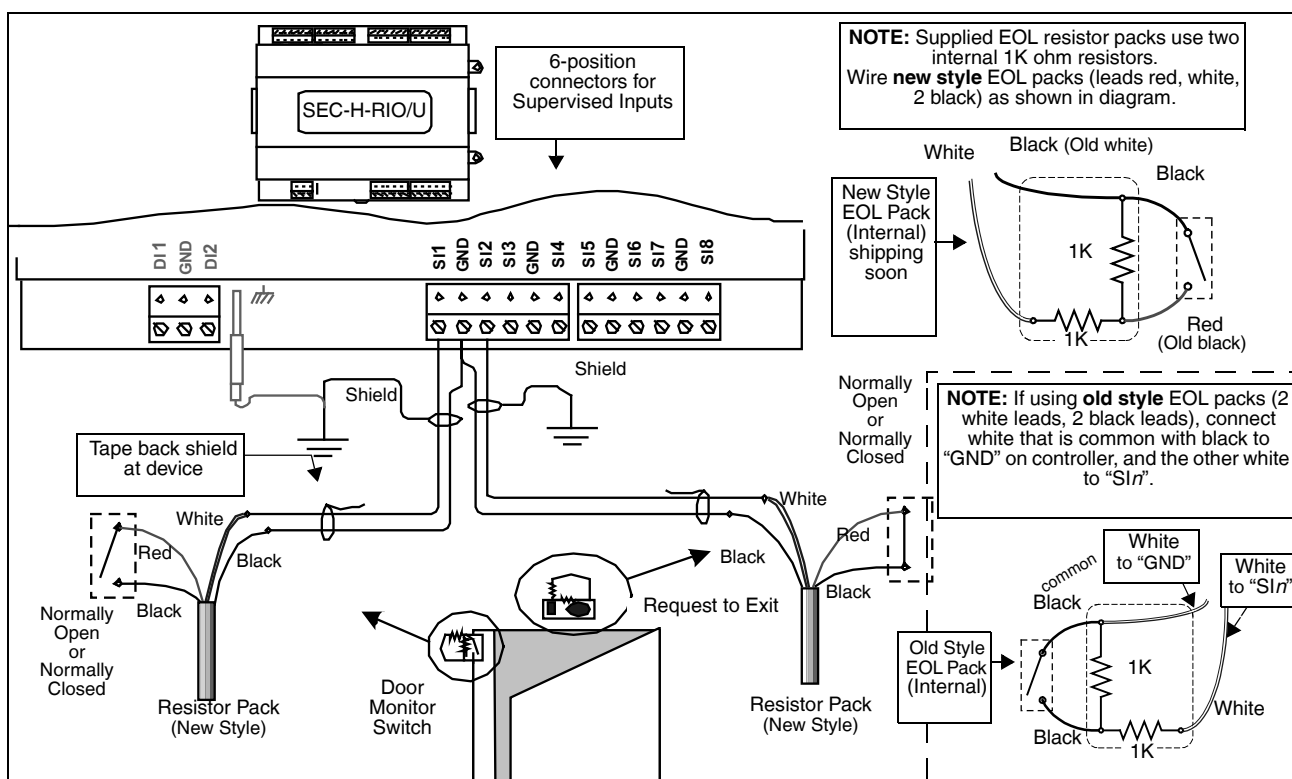

Fig. 5. Supervised input wiring to SEC-H-RIO/U module.
The SEC-H-RIO/U module has eight (8) supervised inputs, on two 6-position connectors (see Fig. 5). Terminals are labeled SI1, GND, SI2, SI3, GND, SI4 and so on. This means when wiring, *two* conductors are typically landed to each GND terminal.
Each supervised input can monitor dry contacts, either normally-open (N.O.) or normally-closed (N.C.). One End-of-Line Resistor Pack is required at the monitored contacts for each input for proper operation. Fig. 5 shows wiring of supervised inputs SI1 and SI2 used for monitoring door position and request-to-exit.
- New style (shipping soon): One red, one white, two black leads. Wire as shown in Fig. 5.
- Old style: Two white, two black leads. Wire black leads across contacts, and wire the white lead shown internally connected to the black lead (common) to the "GND" input, and the other white lead to the "SI1" input. See the detail in lower right of Fig. 5.
Depending on **new** or **old style** EOL resistor pack, wire the EOL leads by color. See Fig. 5, page 9.